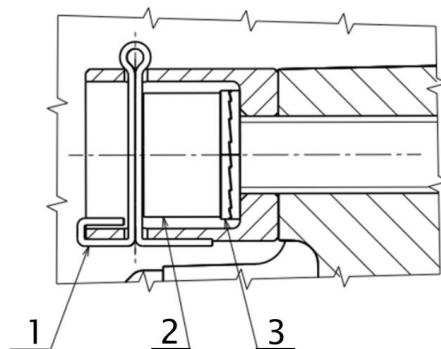

Fig. 2
- ▶ Cut off the cotter pin securing the bolt heads (1, Fig. 2).
- ▶ Remove screws (2, Fig. 2) and washers (3, Fig. 2) attaching the engine to the engine mount.
- ▶ Put the engine on the engine mount by the crane or with 2 assistants and attach it by the screws (2, Fig. 2) with washers (3, Fig. 2). Tighten up applying torque moment 4.146 kg.m (30 lbf).
- ▶ Secure the screw heads by cotter pins (1, Fig. 2).
- ▶ Connect control cables of the choke and the throttle on the carburetor control levers according to the Fig. 2. Adjust the throttle control (see Chapter 73-20-01 *Adjustment*) and the choke control (see Chapter 73-20-02 *Adjustment*).